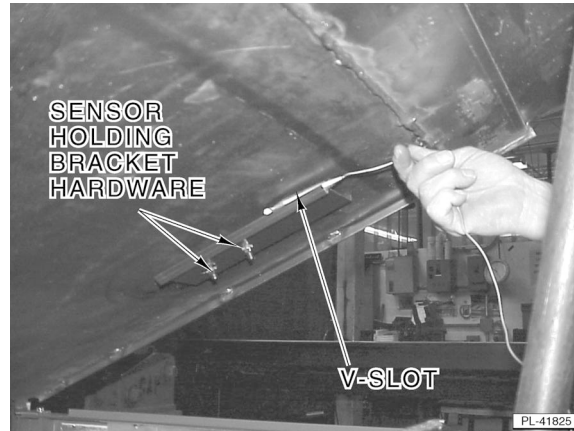

Fig. 17
- Slide the thermostat bulb through the V-slot bracket (Fig. 17). Neatly coil the excess capillary line without kinking and lay resting in front of the heat shield. Do not pinch the line when reinstalling the control cover.